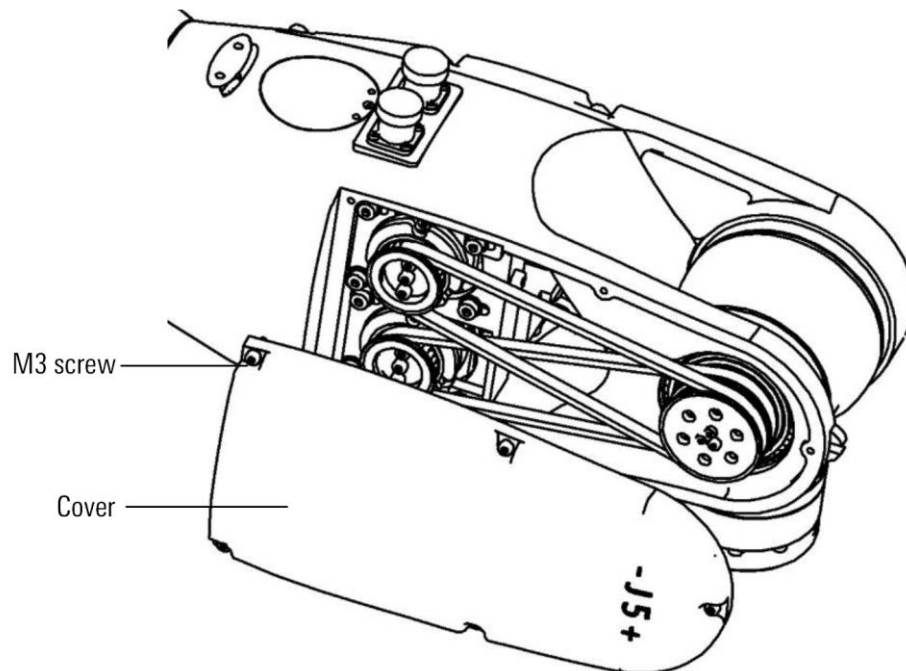

Figure 13-5 Remove cover
- Remove and operate the machine cover and five M3 screws, as shown in Figure 13-5.